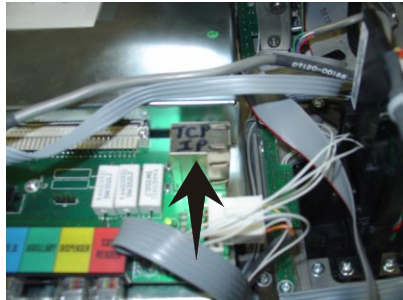

Figure 1a. Side view of TCP/IP connector.
1. Open the control panel hood and turn the power switch on the power supply to the OFF (0) position.
3. Connect the RJ-45 end of CAT-5 cable to the **TCP/IP** connector located on the **Docking board** assembly as shown in Figures 1a and 1b.